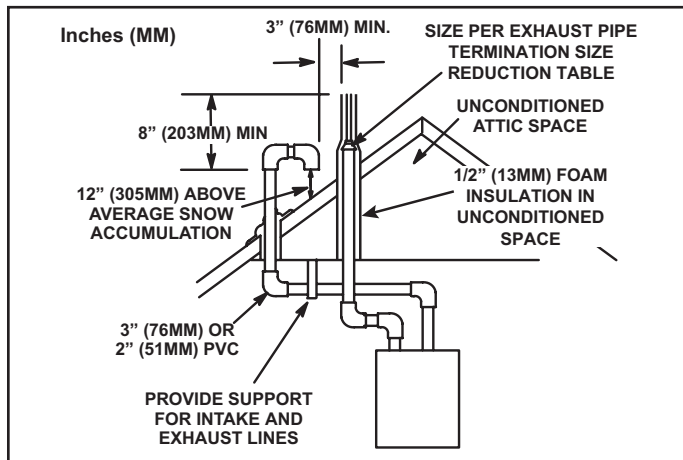

Figure 22. Direct Vent Roof Termination Kit (15F75 or 44J41)
Intake and exhaust pipes may be routed either horizontally through an outside wall or vertically through the roof. In attic or closet installations, vertical termination through the roof is preferred. Figure 22 through Figure 29 show typical terminations.
3. On roof terminations, the intake piping should terminate straight down using two 90° elbows (Figure 22).